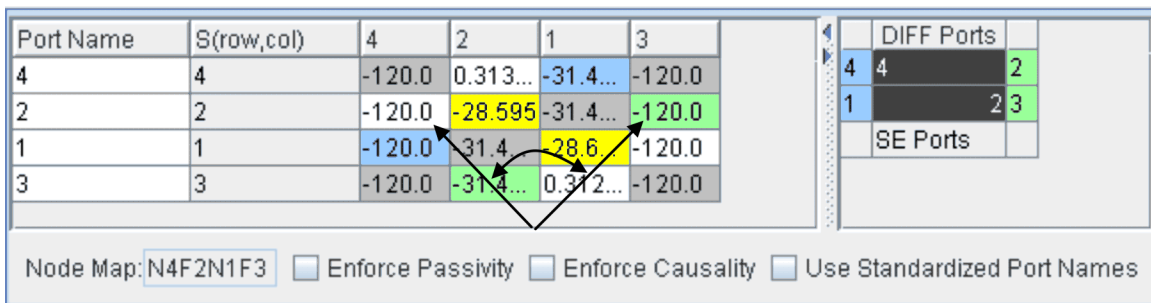
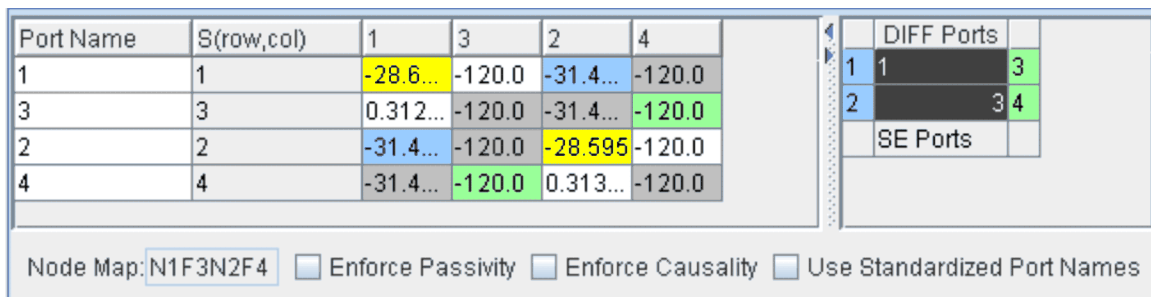

Figure 9. SiSoft QCD -- Incorrect Port Ordering
Figure 10. SiSoft QCD -- Correct Port Ordering
6. Rearrange the port order of the Node Map as shown in Figure 9 and Figure 10.